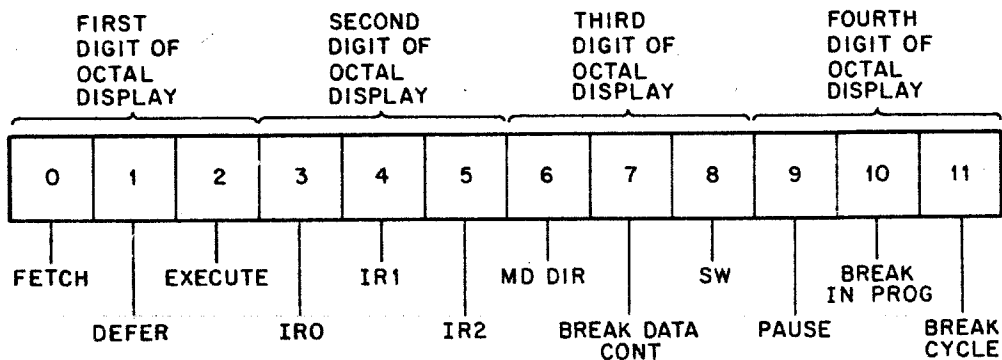

Figure 6-4 Major States Register
| STATE (5) | <p>indicator to the left of the key pad will also light.</p> <p>When key pad switch STATE and then DISP are depressed, the condition of the major states, 3 bits of the instruction register (IRO-2), and 6 major Omnibus signals are displayed in the 4 character octal readout (Figure 6-4). The STATE indicator to the left of the key pad will also light. The octal readout must be decoded to determine if the individual bits are in a set or cleared condition (a logical one or a logical zero).</p> |